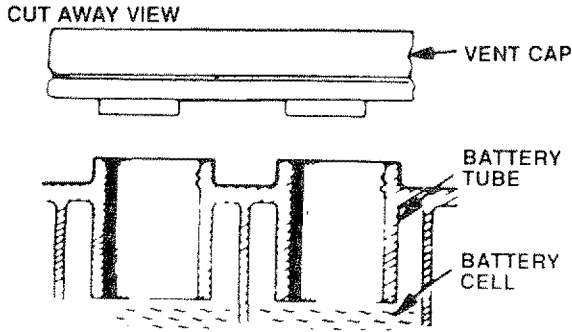

FIGURE 24
- Battery acid level in each battery cell should be even with bottoms of tubes in cells (Fig. 24). Add **ONLY** distilled water if necessary. **NOTE: DO NOT OVERFILL.**